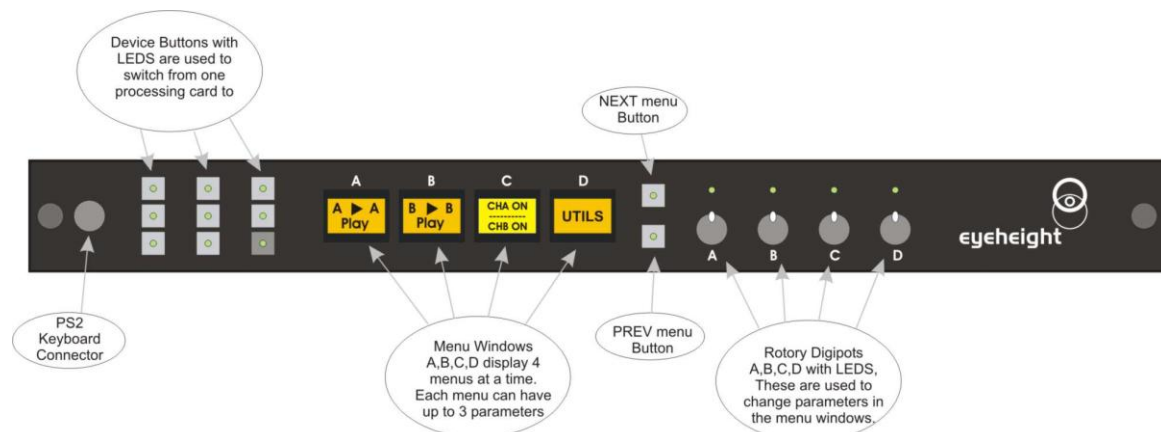

Figure 8 Flexipanel (FP-9) controls.
2. Using a **GOTO ANOTHER MENU** LCD button (as below coloured orange). This is more common and will take you straight to a relevant set of menus. Examples are the **Play** and **UTILS** menu’s shown on Figure 8.